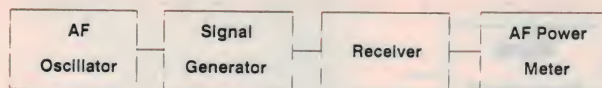

Fig.3.9: Audio frequency response
- i) Connect the equipment as shown in Fig. 3.9.